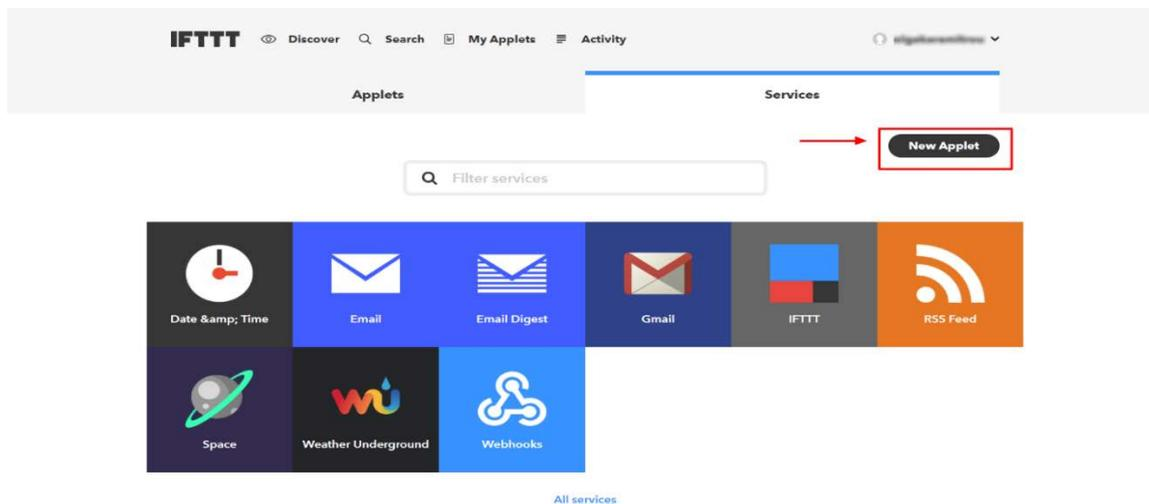

Figure 74: New Applet
2. After logging in to IFTTT, click on 'My Applets' at the top menu and then click on **New Applet** button (Figure 74).